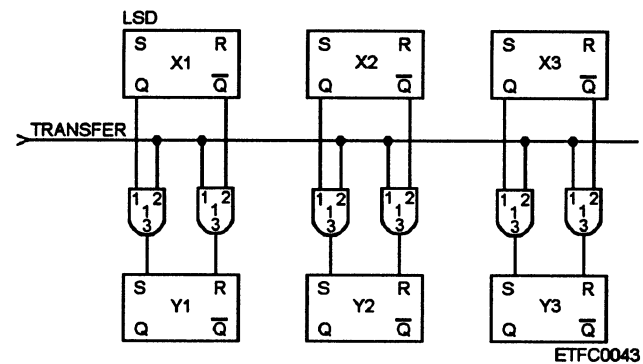

Figure 4-26.—example of a double-line parallel transfer,
- **Double-line (dual) parallel transfer** (also called forced method)—1's and 0's are moved. This transfer is faster than the single-line parallel transfer; however it requires more logic gates. With this method the receiving register is forced to assume the state of corresponding flip-flops of the sending register. This eliminates the need to clear the receiving register's contents before the transfer. Refer to figure 4-26.